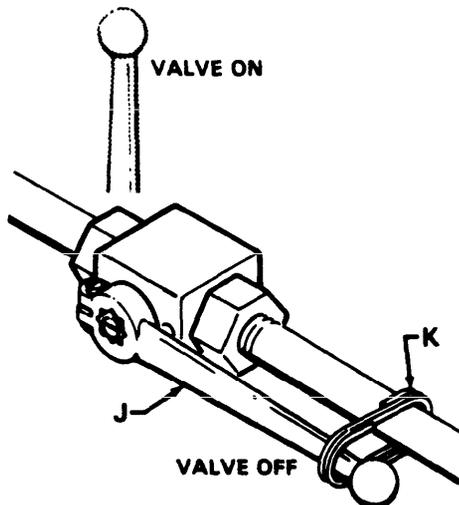

Fig 2
To open the pole gun ON/OFF lever (J), slip the safety ring (K) off the lever and pull the lever completely back, toward yourself. See Fig 2.
To close the pole gun ON/OFF lever (J), push the lever completely forward, toward the tip, and slip the safety ring (K) over the lever. See Fig 2.